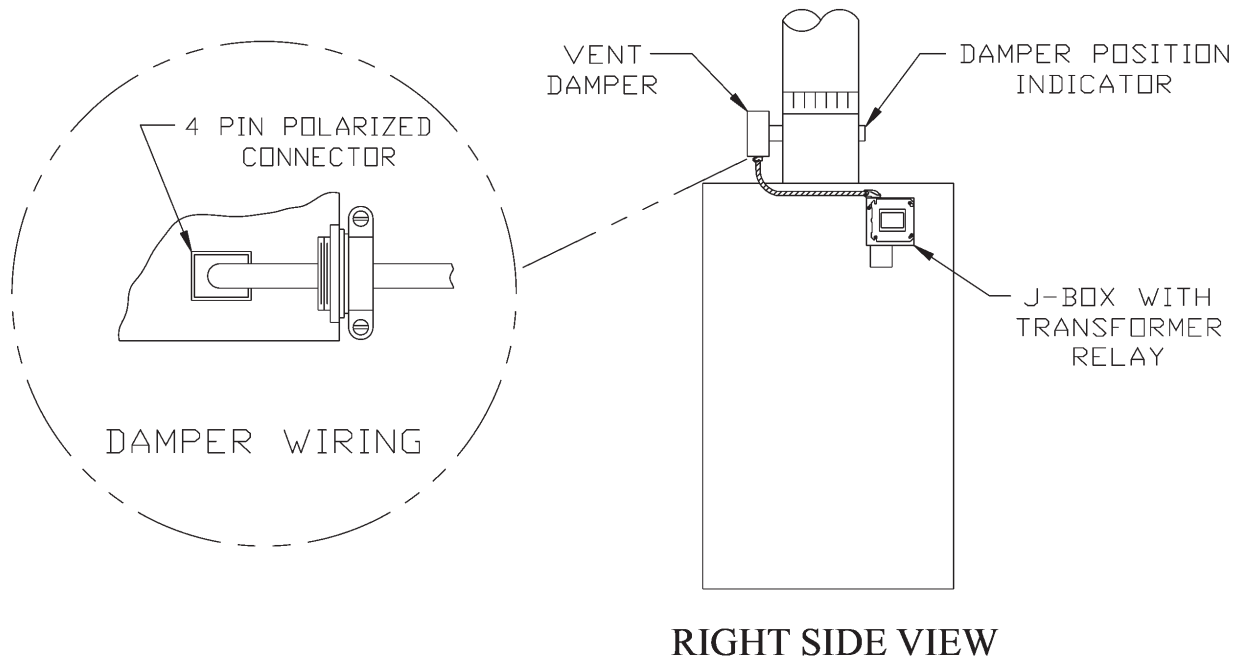

FIGURE 4: VENT DAMPER INSTALLATION DETAILS
2. Install vent damper (see Figure 4) as follows: